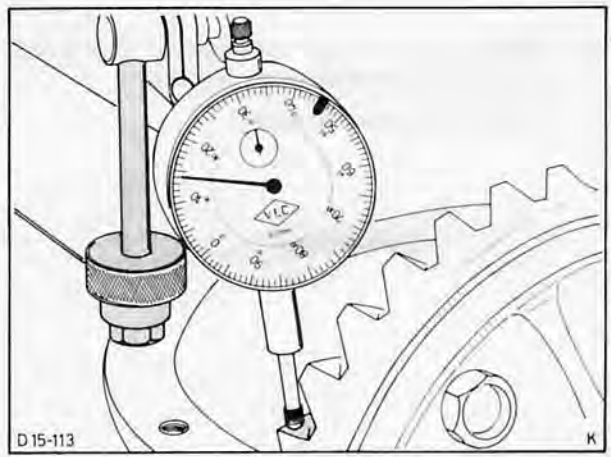

Fig. 93. Position dial indicator plunger at right angles on one of crown wheel teeth
45. Measure backlash. If backlash is not between 0,1 and 0,2 mm, differential assembly must be removed again, Fig. 93.